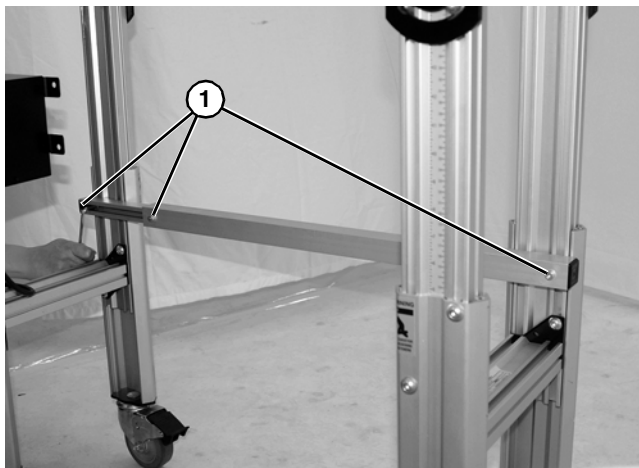

Figure 16
Failure to secure three screws (Figure 16, item 1), may cause conveyor sections to drop down, causing severe injury. TIGHTEN SCREWS AFTER ADJUSTMENT.
4. Tighten three screws (Figure 16, item 1), to 80 in-lb (9 Nm).